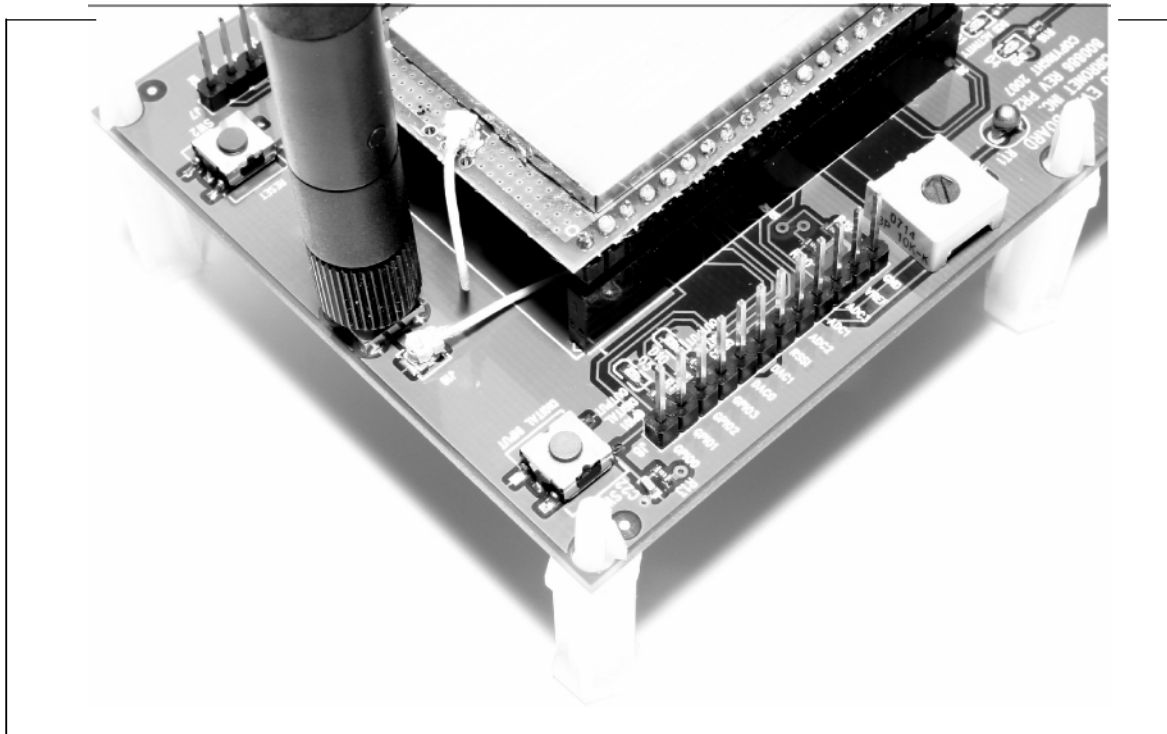
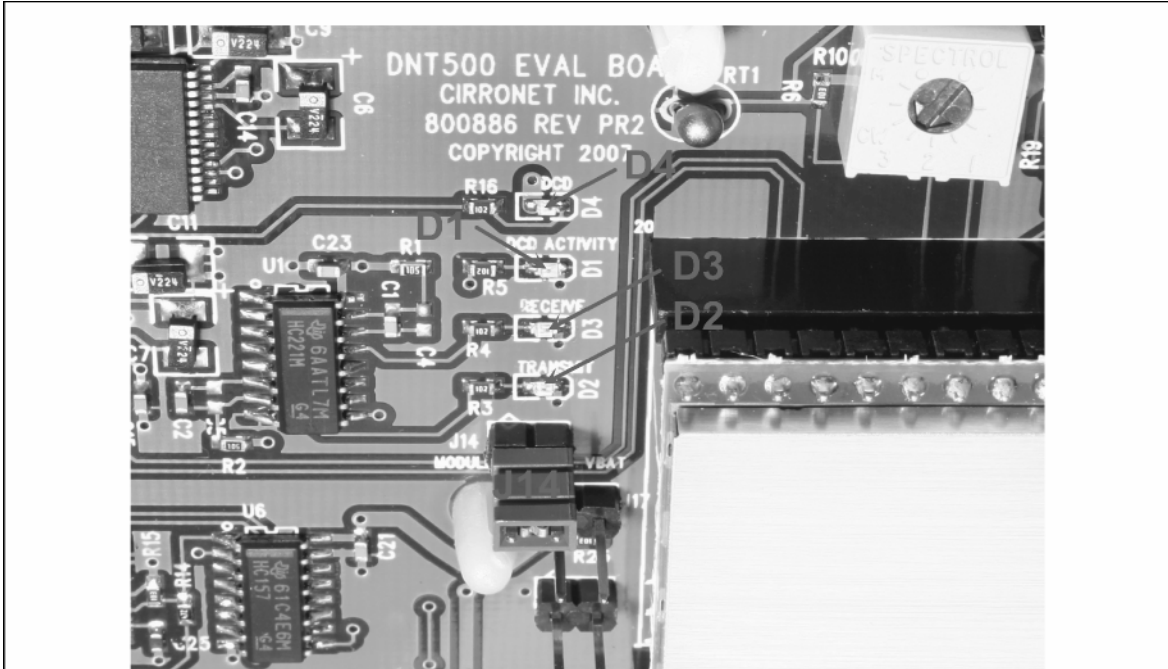

Figure 5.4.1
Figure 5.4.2
Observe ESD precautions when handling the kit circuit boards. Referring to Figure 5.4.1, confirm each DNT500P is correctly plugged into an interface board, with the radio oriented so that its U.FL connector is next to the U.FL connector on the interface board. Check each radio's alignment in the socket on the interface board. No pins should be hanging out over the ends of the connector. Next, install the U.FL jumper cables between the U.FL connectors on the radios and the interface boards. Then install the dipole antennas. As shown in Figure 5.4.2, confirm there is a jumper on pins J14. The interface boards can now be powered by the 9 V wall plug transformer power supplies (the interface boards can also be run for a short time from the 9 V batteries for range testing, etc.).
1. Confirm that each DNT500P is installed correctly in an interface board, and that the U.FL jumpers between the DNT500P radios and the interface boards are installed. Also confirm that a dipole antenna is installed on each interface board, and that J14 has a jumper block installed on each interface board. See Figures 5.4.1, 5.4.2 and 5.4.3 above.